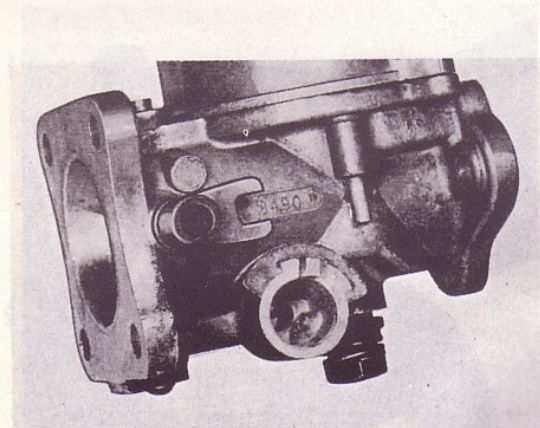

Fig. 23. Carrier yoke position
7. Replace the carrier yoke as shown in Fig. 24 (throttle fully closed, idling screw screwed out). Ensure that a clearance of 1.5 mm (0.06") is obtained between the carrier yoke and the throttle housing. Drill with the carrier in position as shown in Fig. 23 and using a 3.0 mm (0.12") drill, the hole for the locking pin is drilled through the throttle spindle, (the hole must be drilled at right angles to the carburettor length axis when the throttle is closed).